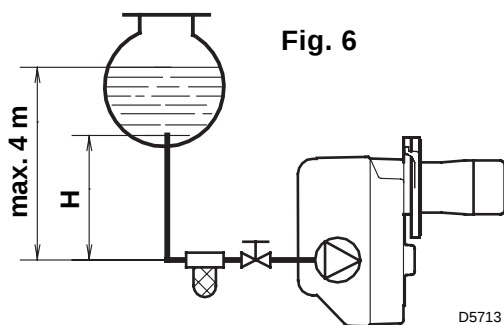
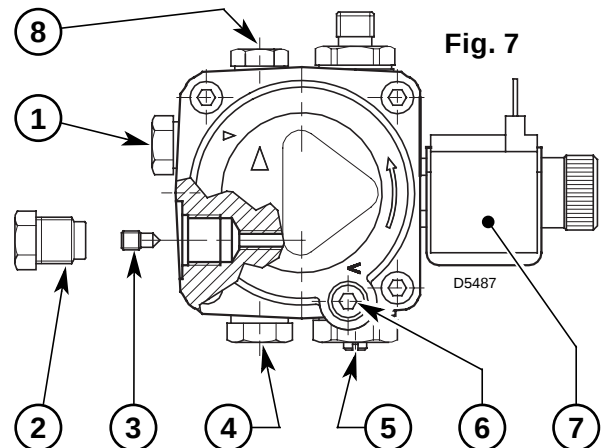

Fig. 6
Fig. 7
- The pump is designed to allow working with two pipes. In order to obtain one pipe working it is necessary to unscrew the return plug (2), remove the by-pass screw (3) and then screw again the plug (2). (See fig. 7).
On the system in fig. 6 it is sufficient to loosen the suction gauge connection (6, fig. 7) and wait until oil flows out.
- To change it act on pump pressure adjust screw (5, fig. 7, page 4).